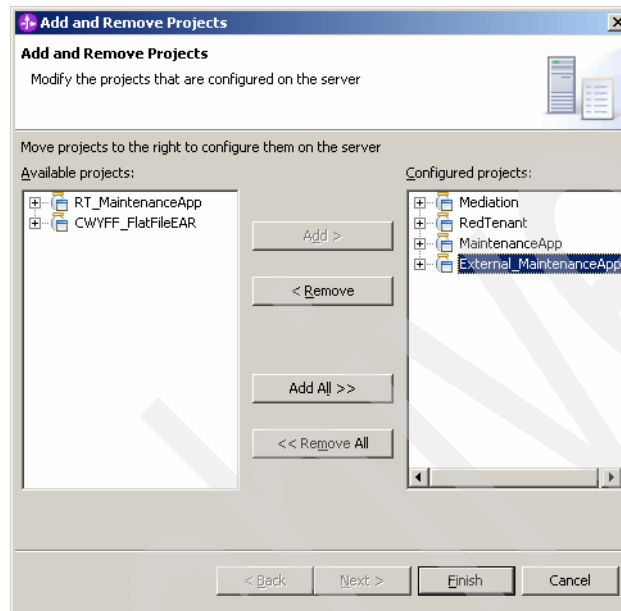

Figure 2-44 Add the project
2. Select **External\_MaintenanceApp** and add it to configured projects on the server (Figure 2-44).